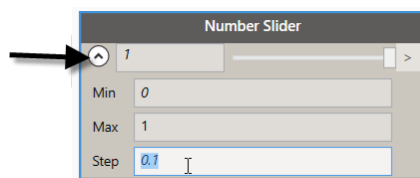

FIGURE 35
15. Set the Min to: **0** and the Max to: **1**. For the Step, try a value of: **0.1**. and then close the controls by clicking the chevron again (see Figure 35).